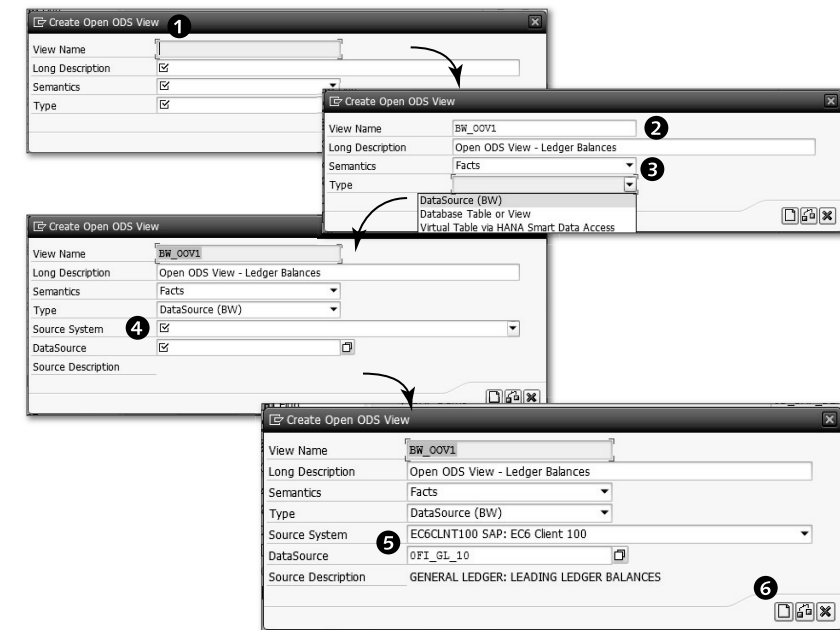

Figure 6.78 Open ODS View Input
An OOV is created under INFOAREA. Select InfoArea BW_INFOAREA ❸. From the context menu, select CREATE OPEN ODS VIEW ❹ to open the CREATE OPEN ODS VIEW screen as shown in ❶ of Figure 6.78.
An OOV is based on semantics, which are facts, master data, and texts, and we're creating an OOV based on facts, so click on the **FACTS** tab ❶. The details of the source are shown ❷. The OOV **SOURCE TYPE** field indicates what object stores the data: DataSource (BW), Database Table or View, or Virtual Table via HANA Smart Data Access. For our example OOV, select DataSource (BW) as the source type and OFI_GL_10 as the source object. Once all of the details are added, click **CREATE** ❸, which opens the **CHANGE OPEN ODS VIEW** screen (Figure 6.78).